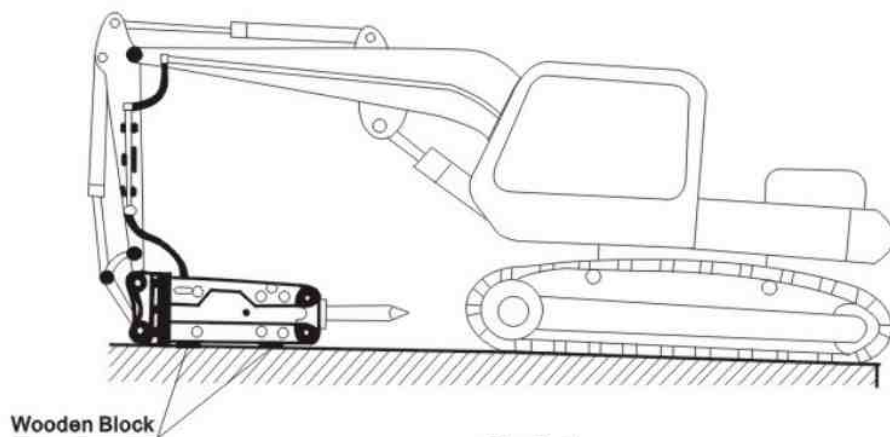

Fig 5-1
- 1) Choose a smooth and clean place, better in the repairing shop; after the excavator is driven in, turn off the engine and master switch. After that, if the pressure of excavator hydraulic oil tank is high, then release the pressed air in the tank. Then place the excavator according to Figure 5-1. This makes it very easy to replace breaking hammer and bucket.